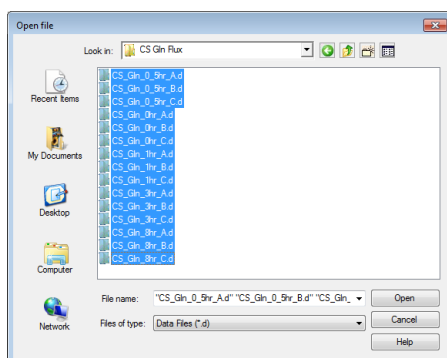

Figure 39 Select sample data files in the Open file dialog box
- f Click **Open** in the **Open file** dialog box (Figure 39).